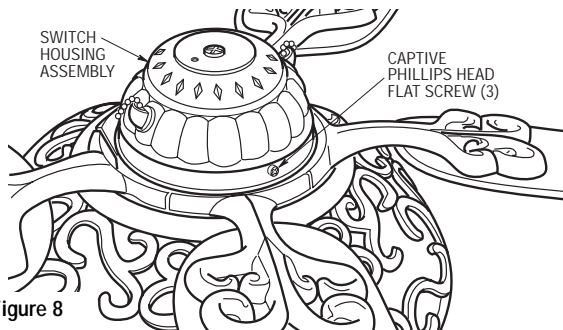

Figure 8
- 12. Position the switch housing assembly on the switch housing plate and secure using three captive Phillips flathead screws (Figure 8).